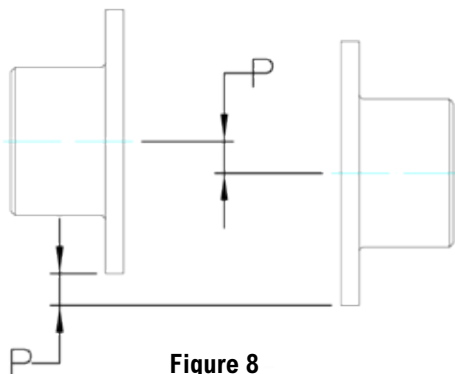
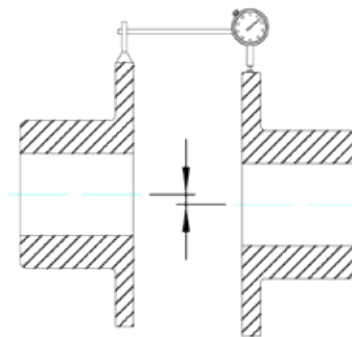
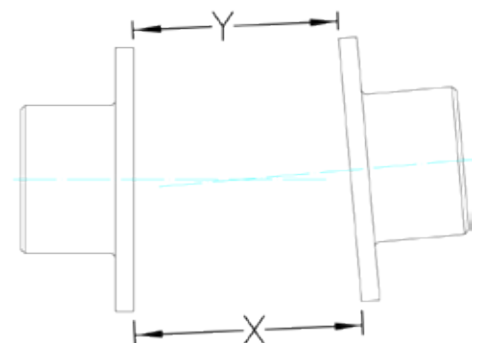

Figure 8
Figure 9
Figure 10
Table 4 shows installation limits for Angular and Parallel Alignment. The Parallel Alignment value “P” is the offset between the centers of the hubs, as shown in Figure 8. If parallel offset is measured by rotating the hubs with a dial indicator on the outside diameter, as shown in Figure 9 the total indicated reading should be divided by (2) to calculate “P”. The Angular Alignment Total Indicator Reading value is the maximum difference between the measurements (X-Y) taken at opposite ends of the hub flange, and spacer flange as shown in Figure 10.
a. The Angular Misalignment value is the maximum difference between the measurements X and Y taken at opposite ends of the hub flanges, as shown in Figure 10.
b. The Parallel Misalignment value "P" is the offset between the centers of the hubs, as shown in Figure 8.